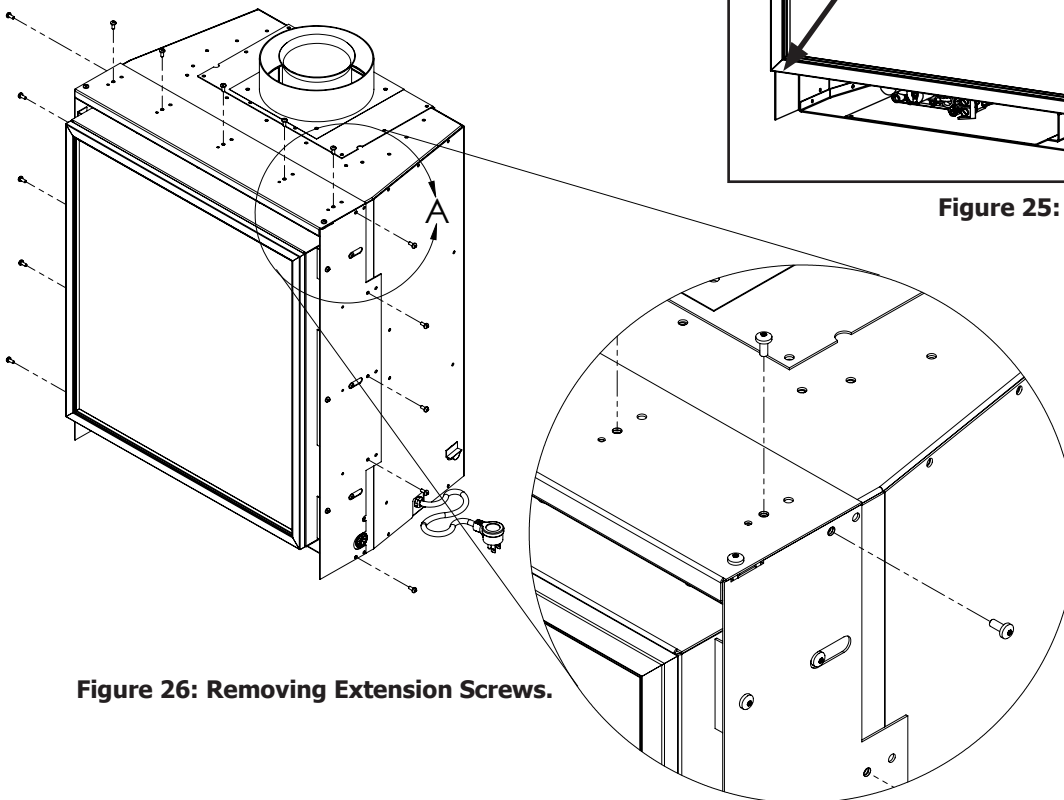

Figure 26: Removing Extension Screws.
1. Using a T20 screwdriver, remove the five (5) screws that secure the Top Extension to the Cabinet (see Figure 26).
2. Remove the five (5) screws on each Side Extension (see Figure 26).